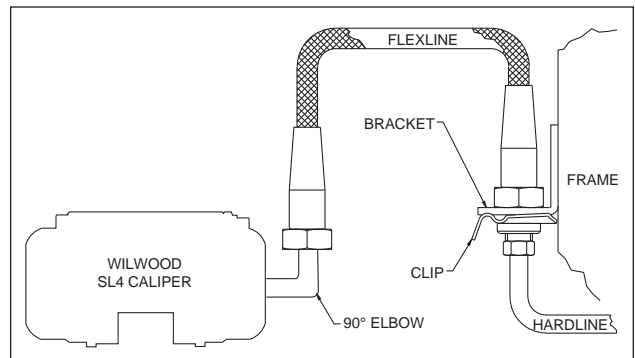

Figure 4. Brake Line Diagram
- Remove the caliper center bridge pad retainer bolt, nut, and tube from the caliper. Insert the brake pads (12) into the caliper, with the friction material facing the rotor, as shown in Photo 4. Check that the top of the brake pad is flush with the outside diameter of the rotor, Photo 5. If not, adjust by adding or subtracting shims (11) between the caliper and the bracket. After the caliper pad height is set, reinstall the center bridge pad retainer tube, bolt, and lock nut. The lock nut should be snug without play in the bolt or tube. Be cautious not to over tighten. Torque the caliper lock nuts (8) to 30 ft-lb.
- NOTE:** *The caliper in this brake kit utilizes a 1/8-27 NPT pipe thread inlet. OEM rubber brake hoses generally cannot be adapted to Wilwood calipers. Wilwood offers a brake flex line hose kit to fit this application, order P/N 220-8177 for C5, or 220-9101 for C6 (NOT included in kit), see Figure 4. Hose kit includes hoses, fittings, etc., all in one package for this application. **Carefully route hoses to prevent contact with moving suspension, brake or wheel components.** **NOTE:** *Wilwood hose kits are designed for use in many different vehicle applications and it is the installer's responsibility to properly route and ensure adequate clearance and retention for**